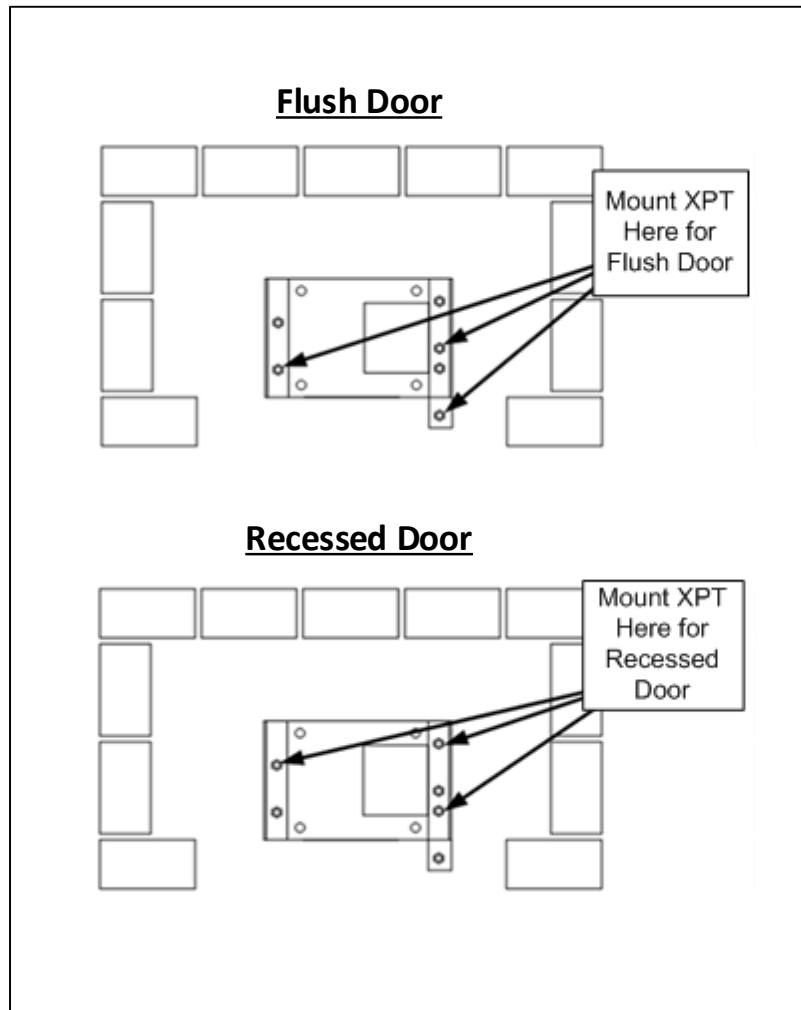

Figure 20. Flush Door and Recessed Door Mounting Options
5. Sink the adaptor plate with anchor bolts into the wet concrete, until the top of the adaptor plate is 35" from the road surface. Position the adaptor plate 4½" back from the front edge of the brick, and center the mark on the adaptor plate created in step 1 above with the inside of the brick enclosure, as shown in Figure 20. Level the adaptor plate while the concrete is still wet.
7. Mount the XPT unit to the adaptor plate by inserting and tightening two bolts through mounting holes on the right side of the XPT case, for either a flush or recessed door configuration (see Figure 20 below).